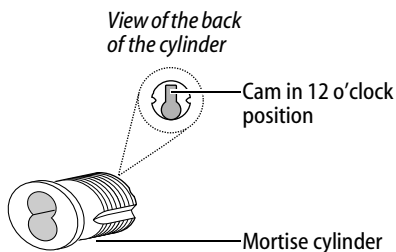

Figure 9 Mortise cylinder components
- 2 Rotate the cylinder cam to the 12 o'clock position, as shown in Figure 9.